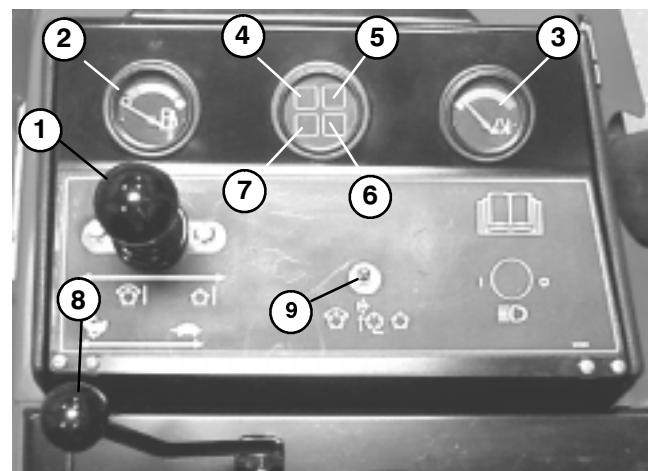

Figure 25
(Fig. 25) – The light illuminates and engine shuts down when coolant reaches a dangerously high temperature.
**Throttle Control** (Fig. 25) – Move control forward to increase engine speed, rearward to decrease speed.
**Fuel Gauge** (Fig. 25) – Shows amount of fuel in tank.
**Lower Mow / Raise Control Lever** (Fig. 25) – The lever raises and lowers the cutting units and also starts and stops the reels.
**Glow Plug Indicator Light** (Fig. 25) – When lit, indicates glow plugs are on.
**Engine Oil Pressure Warning Light** (Fig. 25) – Indicates dangerously low engine oil pressure.
**Charge Indicator** (Fig. 25) – Illuminates when system charging circuit malfunctions.
**Enable / Disable Switch** (Fig. 25) – Used in conjunction with lower mow / raise control lever (Joystick) to operate reels. Reels can be raised but not lowered when in mid position.